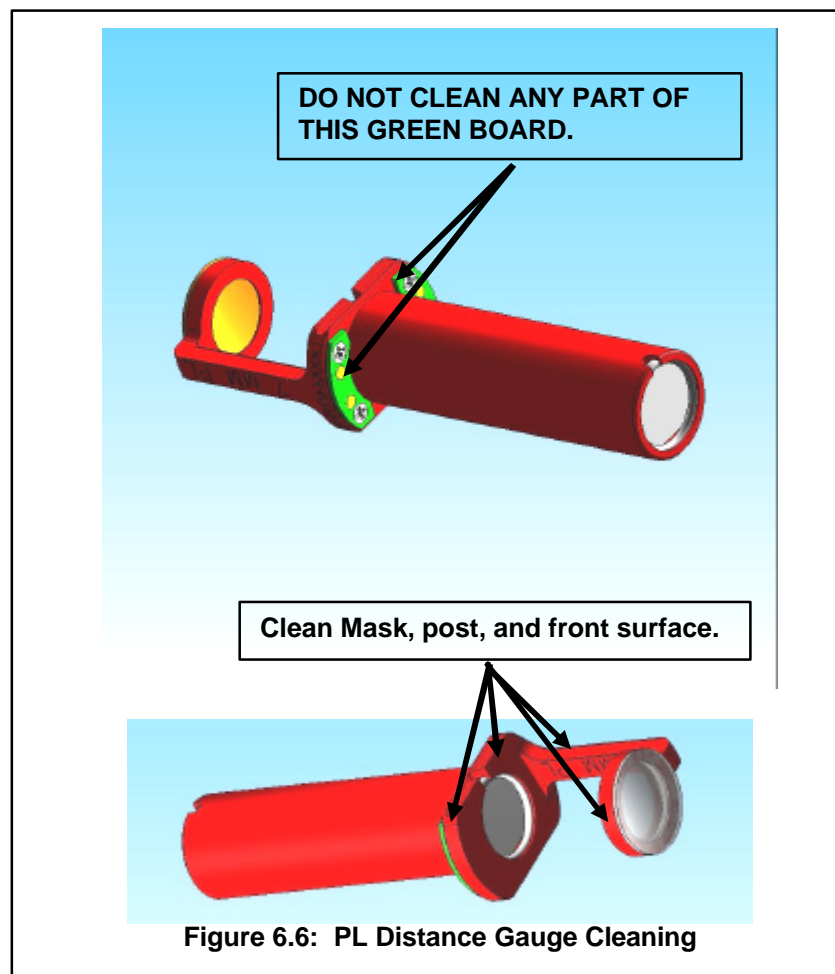

Figure 6.6: PL Distance Gauge Cleaning
2. Be sure **not** to wipe the green circuit board on the Distance Gauge (Figure 6.6).